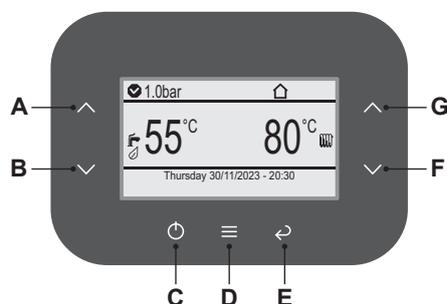
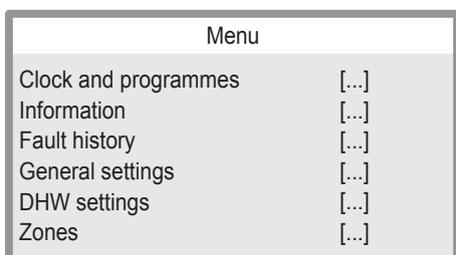

Figure 9.5
Figure 9.6
- 2 Press key "D" (Figure 9.5) to go to the main menu (Figure 9.6).
- 3 Press key "A" or "B" (Figure 9.5) to select the desired menu. See parameter list in section "Parameters setting" on page 27
- 4 Press key "D" (Figure 9.5) to access the selected menu.
- 5 Use key "F" or "G" (Figure 9.5) to change the value of the parameter.
- 6 Press key "D" (Figure 9.5) to confirm the change or key "E" to exit without changing the value (return to previous level).